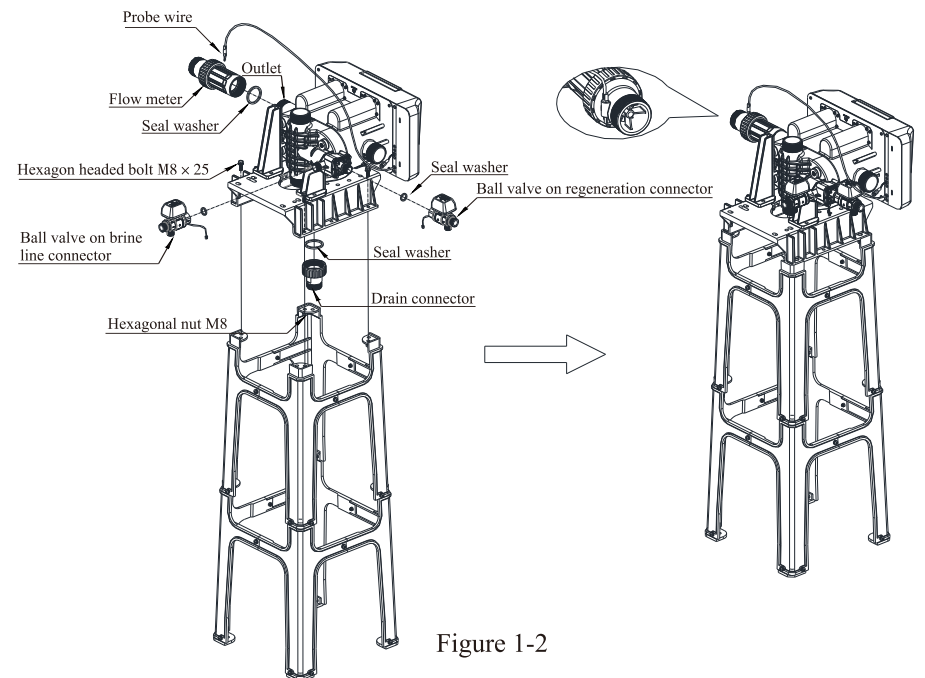
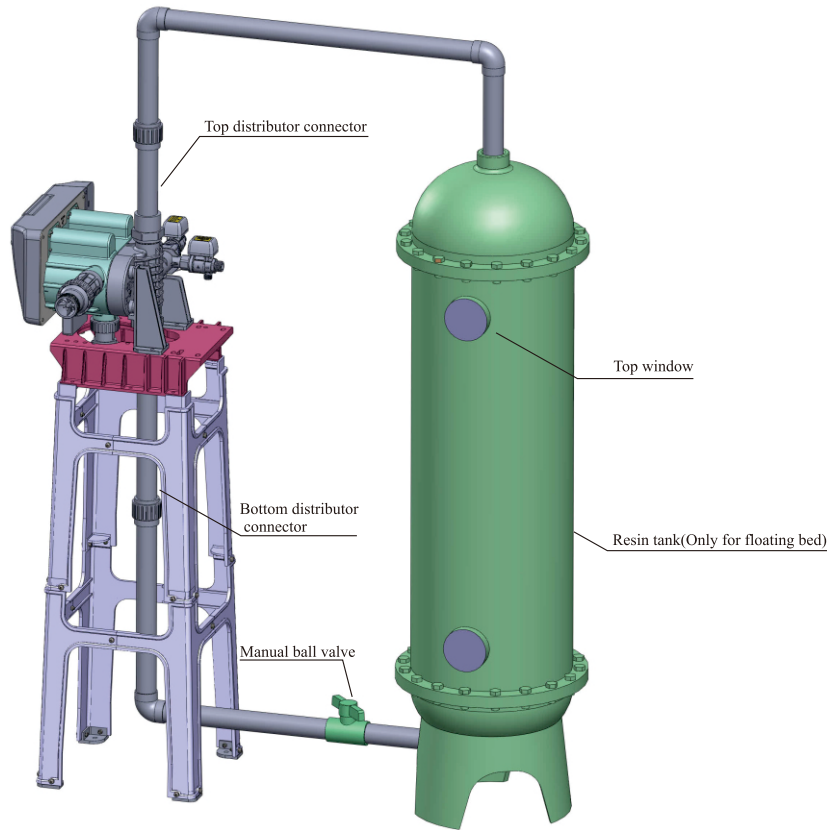

Figure 1-2
Figure 1-3
- As Figure1-2 shows, use the 4 pieces of hexagon bolts (M8\*25) to install control valve on the seat frame.
- As Figure1-2 shows, put the sealing ring into flow meter connector, screw in water outlet; insert the sensor into flow meter.( Without this step when the control valve is time clock type)
- As Figure1-2 shows, when install the brine line connector ball valve and regeneration connector ball valve, it need to put in the sealing ring.
- As Figure1-2 shows, Insert drain line flow control into drain hose connector, then crew it into drain outlet, and lock it.
②Installing resin tank and top/bottom distributor
- Top and Bottom distributor pipeline connection is like Figure 1-3,Install a manual ball valve between bottom distributor and tank.